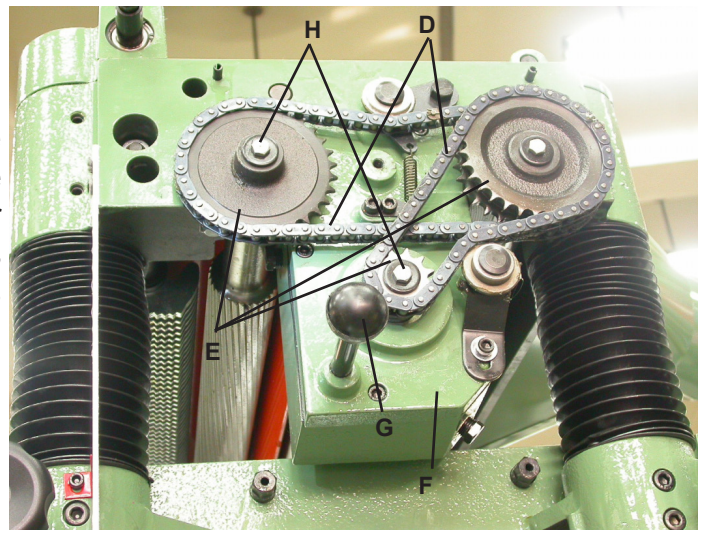
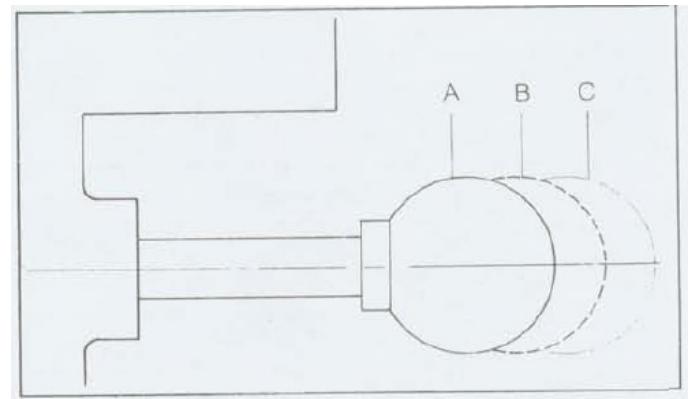

Fig. 33
Fig. 34
Your machine is equipped with a spiral, serrated infeed roller and a solid steel outfeed roller. When the feed rollers are engaged, they turn to feed the stock. The feed rollers slow automatically when the machine is under heavy load for best planing under all conditions. The feed rollers are driven by chains (D) Fig. 33 and the sprockets (E), which take power directly from the cutterhead through the oil bath gear box (F) Fig. 33.
There are two feed speeds in the gear box by using the shift lever (G) Fig. 33 to pull out or push in, and the feed speed range as shown in Fig. 34.
Shift gears handle, shown as Fig. 34. There are three kinds of operations of gear box by using shaft handle to pull or push. In the position A feed roll is operating on rate 20 FPM. Shown as Fig. 16. In the position B feed roll is operating on rate 0.